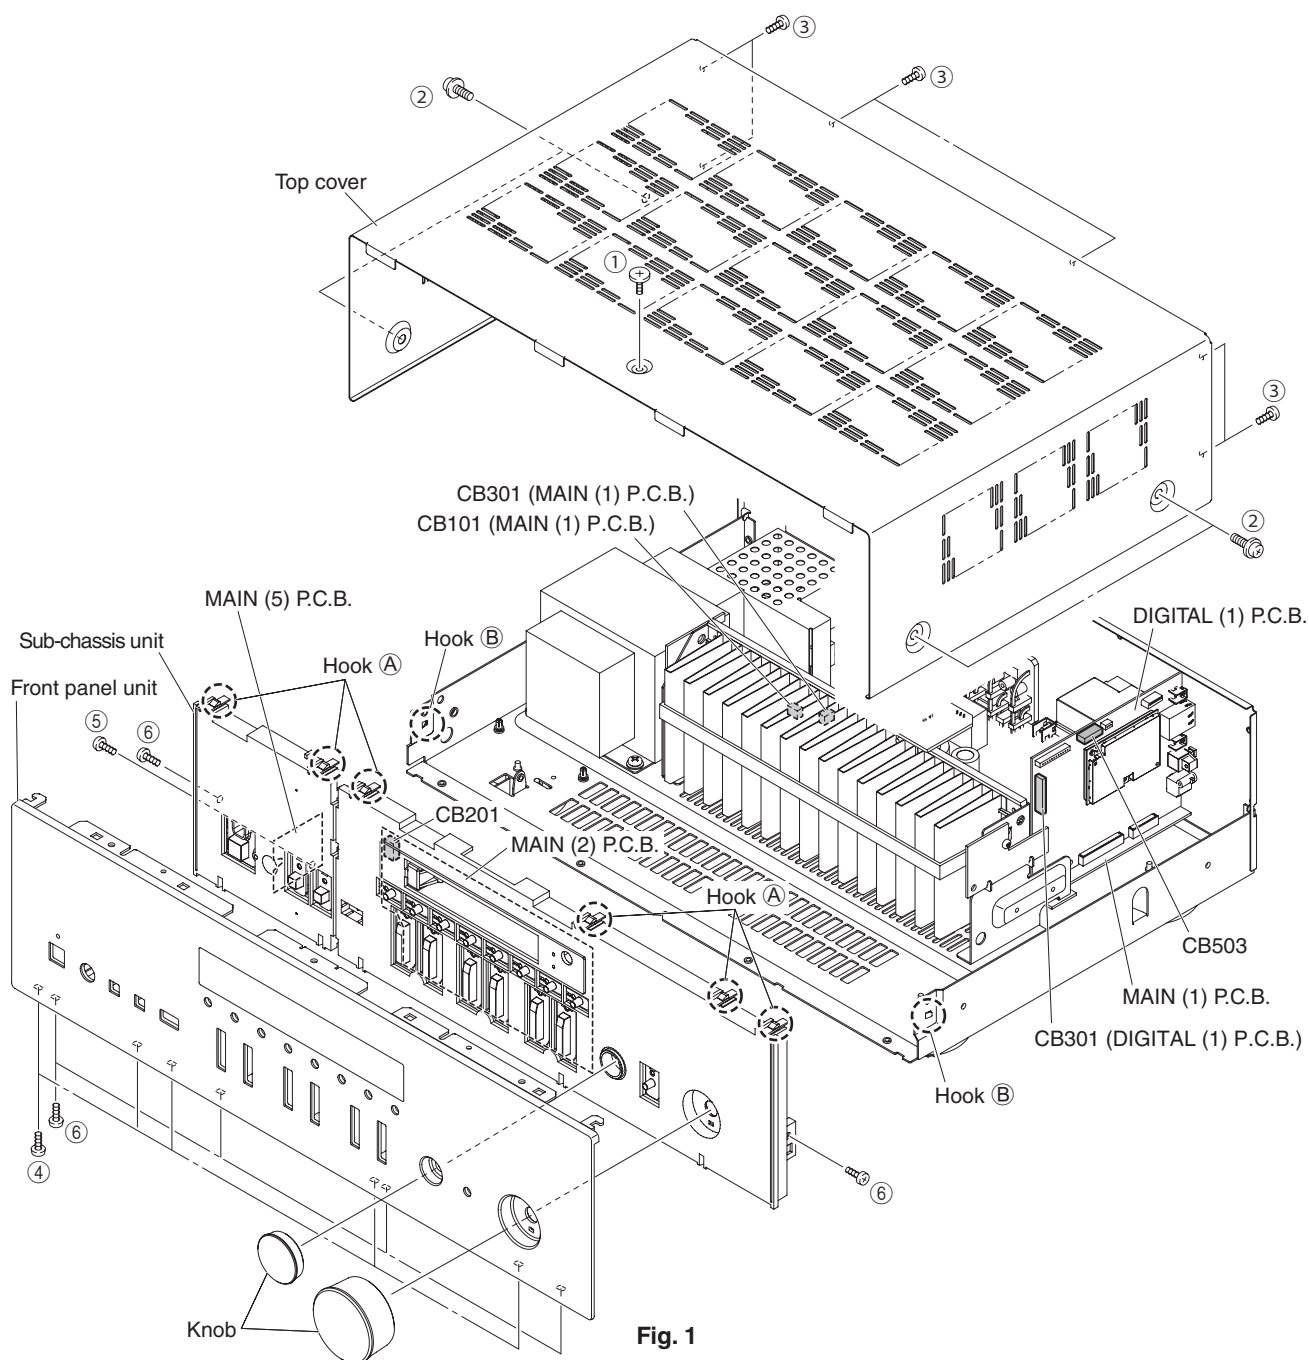

Fig. 1
- a. Remove screw (①), 4 screws (②) and 6 screws (③). (Fig. 1)
- b. Remove the top cover. (Fig. 1)
- a. Remove the knobs. (Fig. 1)
- b. Remove 5 screws (④). (Fig. 1)
- c. Release 6 hooks (A) and then remove the front panel unit forward. (Fig. 1)
- d. Remove screw (⑤) and 6 screws (⑥). (Fig. 1)
- e. Remove CB101, CB201, CB301 (DIGITAL (1)), CB301 (MAIN (1)) and CB503. (Fig. 1)
- f. Release 2 hooks (B) and then remove the sub-chassis unit. (Fig. 1)